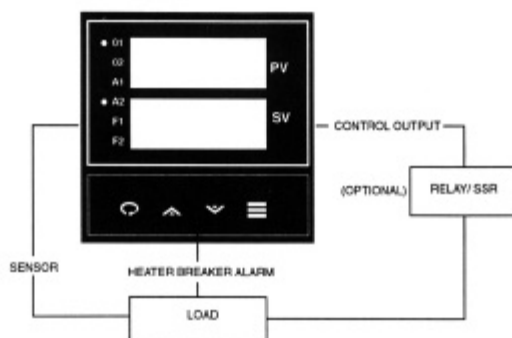

Figure 9-6. Heater Break Alarm
The HB uses an external current transformer (CT) to monitor the load current. This transformer is used for 15 and 30 amp applications. If the load current falls below a set current value, the alarm condition is met. See Figure 9-6.